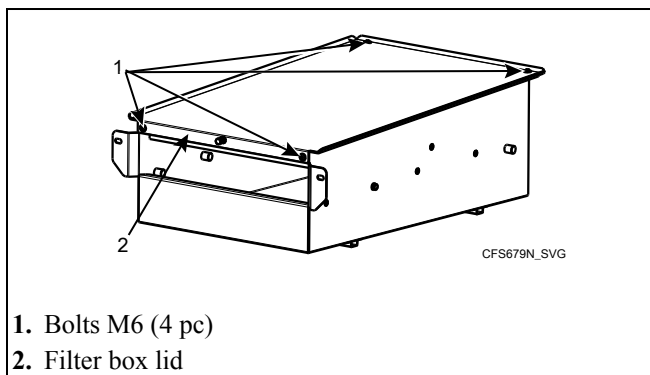

Figure 61
6. Clean the box. Refer to *Figure 61*. The box lid (2) is also removable using the four M6 bolts (1).